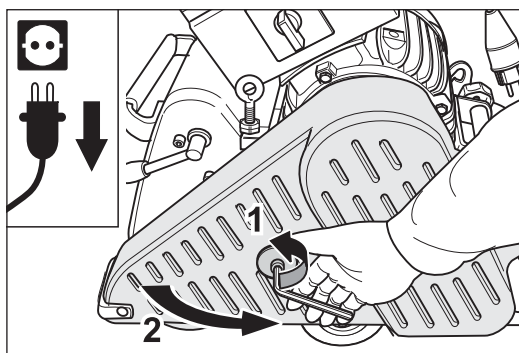

Fig. 2 Pull the power plug out of the socket and open the belt guard.
- 2 Open the belt guard (Fig. 2).